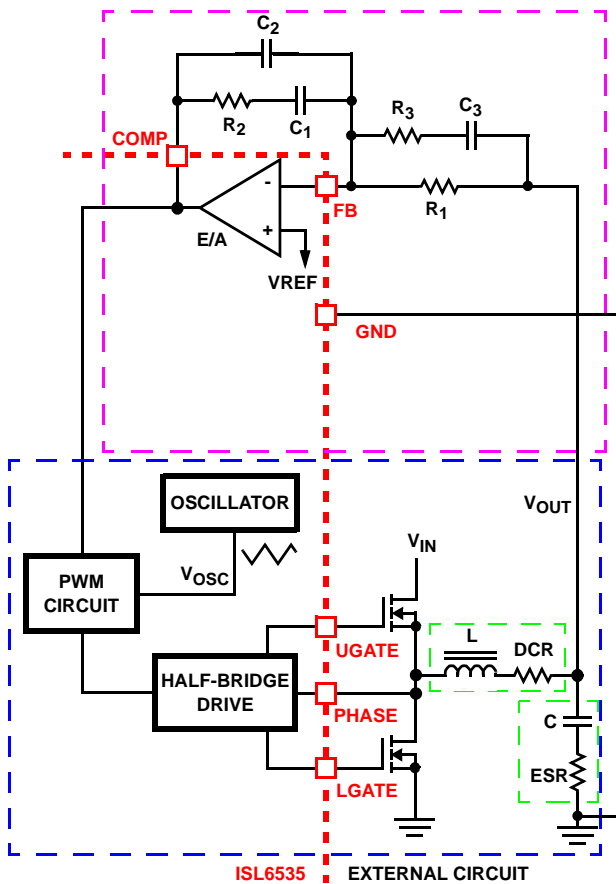

FIGURE 7. VOLTAGE-MODE BUCK CONVERTER COMPENSATION DESIGN
Figure 7 highlights the voltage-mode control loop for a synchronous-rectified buck converter. The output voltage is regulated to the reference voltage level. The error amplifier output is compared with the oscillator triangle wave to provide a pulse-width modulated wave with an amplitude of VIN at the PHASE node. The PWM wave is smoothed by the output filter. The output filter capacitor bank's equivalent series resistance is represented by the series resistor ESR.
1. Select a value for R1 (1kΩ to 10kΩ, typically). Calculate value for R2 for desired converter bandwidth (F0). If setting the output voltage to be equal to the reference set voltage, as shown in Figure 7, the design procedure can be followed as presented.